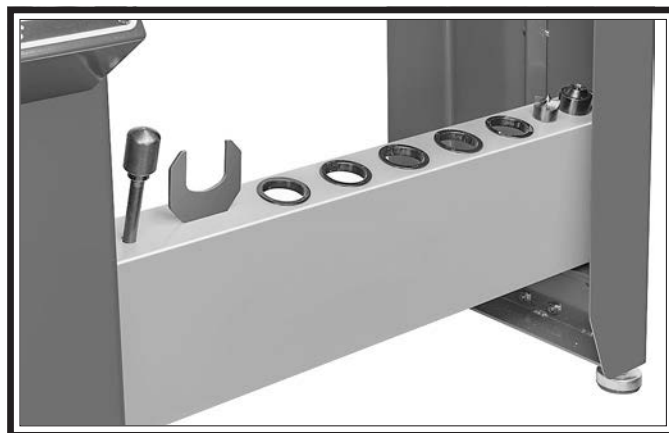

Figure 13. Tool holder with tools.
3. Place tools and centers in tool holder as desired (see **Figure 13**).